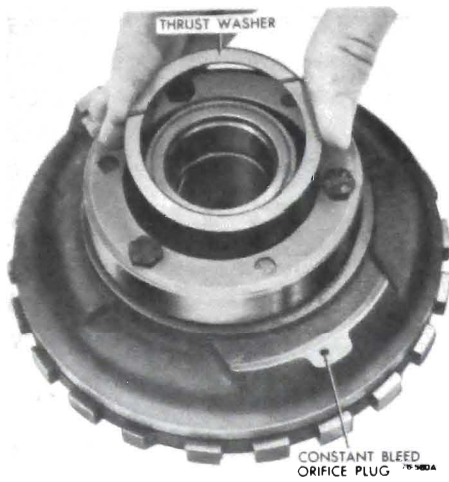

Figure 76-560
2. Remove center support to reaction carrier thrust washer. See Figure 76-560.